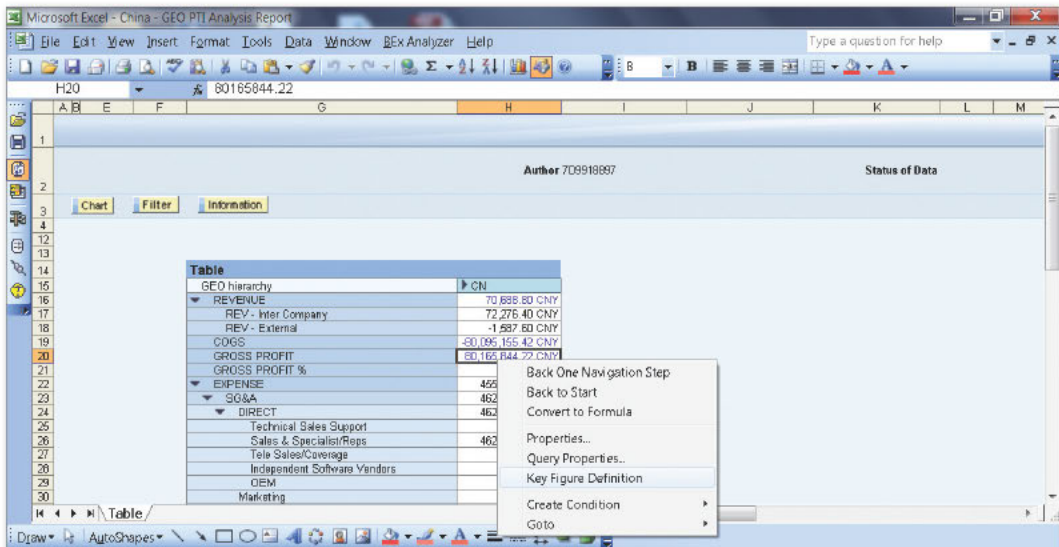

Figure 1 Right-Clicking on a BEx Key Figure
1. Execute a BEx report as shown in Figure 1, and right-click on the BEx key figure.